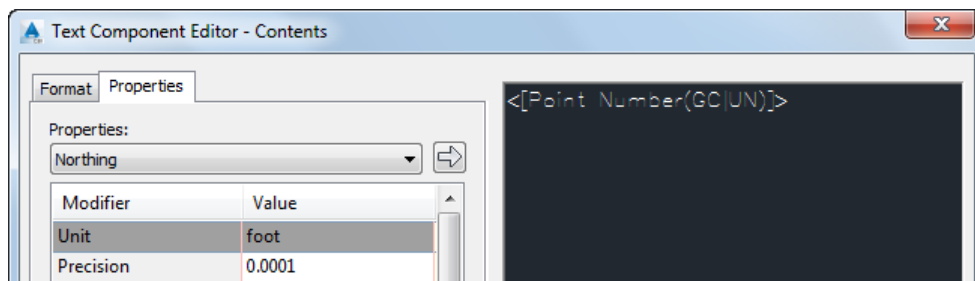

Figure 2-62 Partial view of the Text Component Editor - Contents window showing the label text
13. Choose the button next to the **Properties** drop-down list; the selected property is added to the **Text Editor** window, available on the right pane of the **Text Component Editor - Contents** dialog box, refer to Figure 2-62.